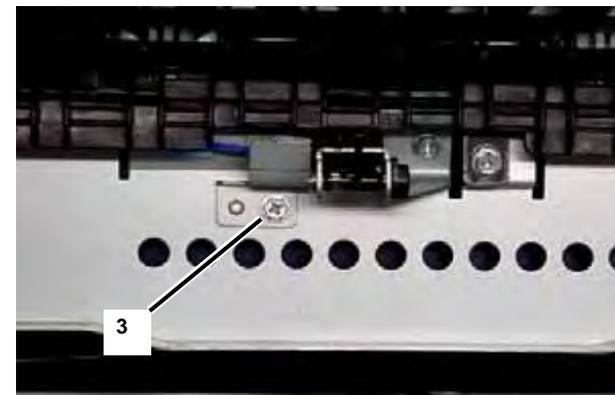

Figure 2 Removing Screw
3. Remove the Plate (1 Screw) (Figure 2).